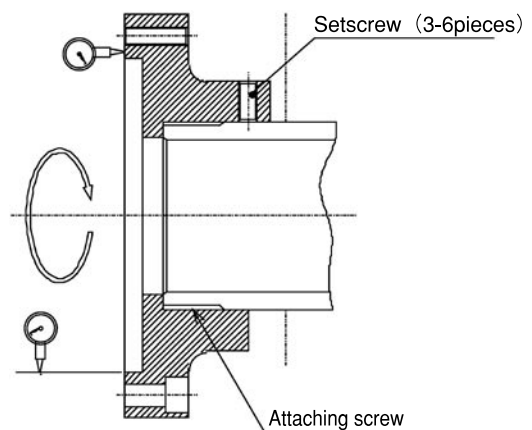

Fig. 11 Run-out measurement of the cylinder adapter
- Attach with the surface run-out of the cylinder adapter and the run-out of the spigot joint at 0.005 mm or less. (Fig. 11) Large run-out causes vibration and shortens the life of the cylinder significantly.
- Never fail to provide a setscrew to prevent loosening of the cylinder adapter. (Fig. 11)